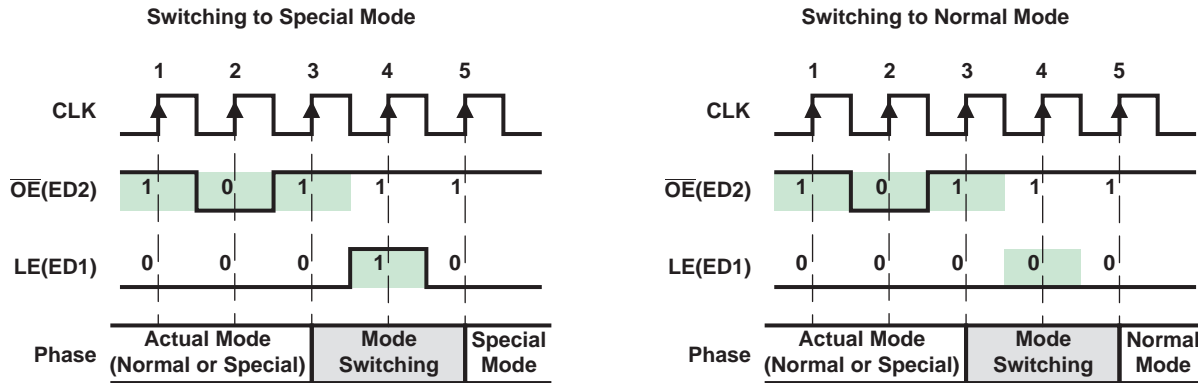

Figure 16. Mode Switching
To switch between its two modes, TLC591x monitors the signal OE(ED2). When an one-clock-wide pulse of OE(ED2) appears, TLC591x enters the two-clock-period transition phase, the Mode Switching phase. After power on, the default operation mode is the Normal Mode (see Figure 16).
As shown in Figure 16, once a one-clock-wide short pulse (101) of $\overline{OE}(ED2)$ appears, TLC591x enters the Mode Switching phase. At the fourth rising edge of CLK, if LE(ED1) is sampled as voltage high, TLC591x switches to Special Mode; otherwise, it switches to Normal Mode. The signal LE(ED1) between the third and the fifth rising edges of CLK cannot latch any data. Its level is used only to determine into which mode to switch. However, the short pulse of $\overline{OE}(ED2)$ can still enable the output ports. During mode switching, the serial data can still be transferred through SDI and shifted out from SDO.